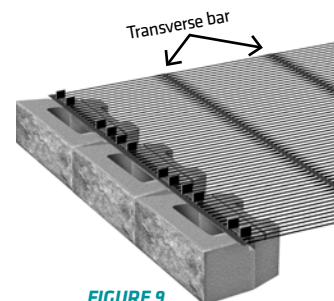

FIGURE 9
- ▶ At the location and elevation shown on the plans, install the appropriate Tensor® UX Geogrid (type and length specified) ensuring the transverse bar of the grid is in the right location (Figure 9 on page 9). A connector should be placed in each connector slot of the Mesa Units. On courses with geogrid, all four connector's teeth must penetrate through the grid apertures and into both connector slots. To align the connectors over the slots, the transverse bar may be cut midway between the connectors. The transverse bar should be snug against the connector teeth before final seating of the connector.